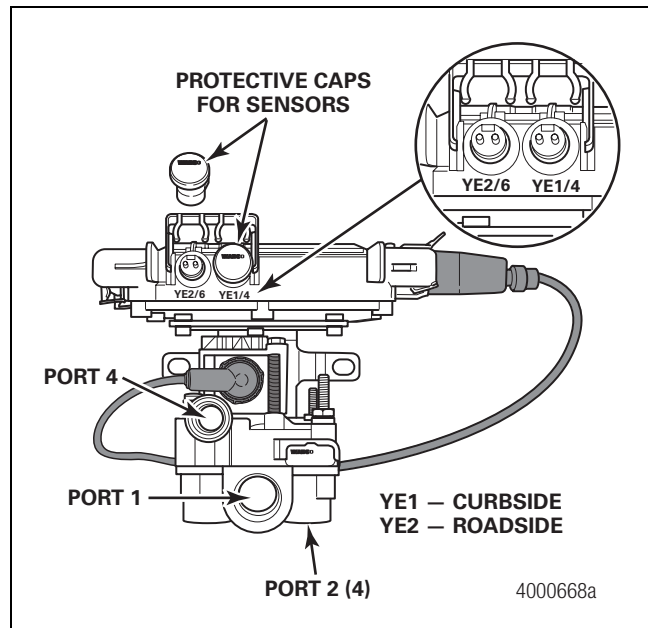

Figure 22
2. Attach the air delivery lines from the service chambers to the delivery ports (Port 2) on the ECU/single modulator valve assembly. Delivery ports are located on the bottom of the assembly. Refer to Figure 22 for port locations.
1. Remove the protective caps from YE2 and YE1 sensor connectors on the ECU/modulator valve assembly. Figure 22.